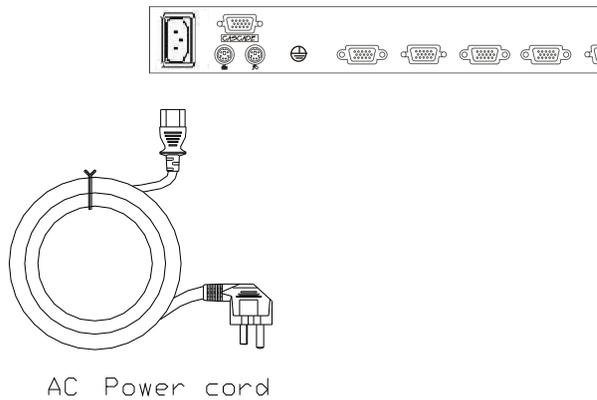

Fig.6
* The AC power cord plugs in power socket see (fig.6)